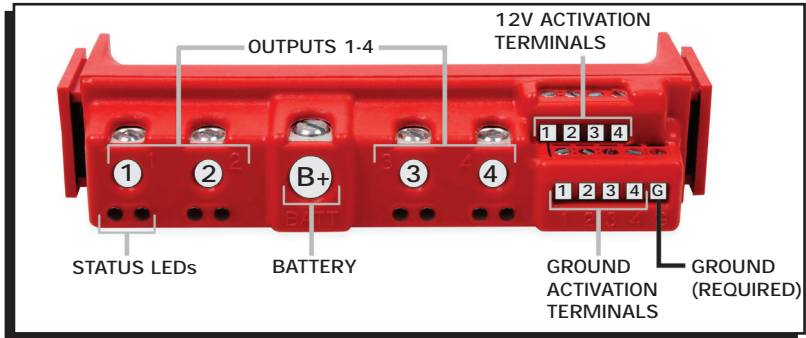

Figure 2 Solid State Relay.
1. A good chassis ground should be connected to the small right terminal, marked “G” in the lower level (Figure 2).